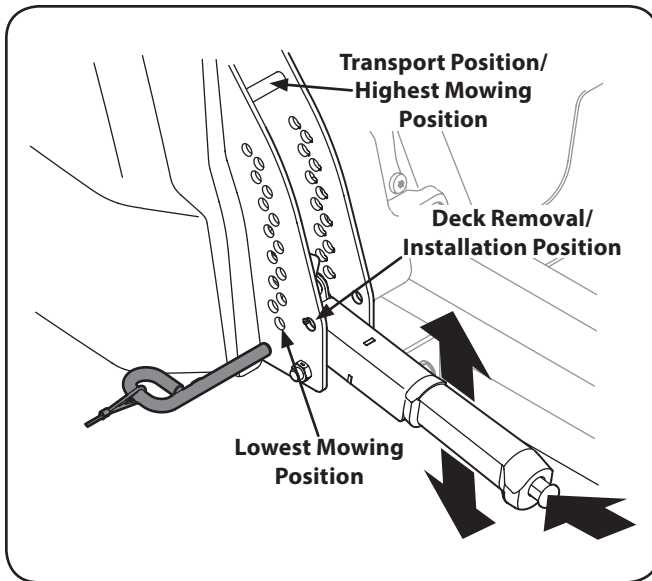

Figure 7-3
- a. Using the deck lift handle, raise the deck to the position that provides the most horizontal run of the belt between the deck idler pulleys and the PTO pulley on the bottom of the engine. See Figure 7-3.
- d. Lower the deck into the deck removal/installation position using the deck lift handle. See Figure 7-3.
- e. Lower the deck into the deck removal/installation position using the deck lift handle. See Figure 7-3.
1. Place the deck lift handle in the highest mowing position See Figure 7-3.